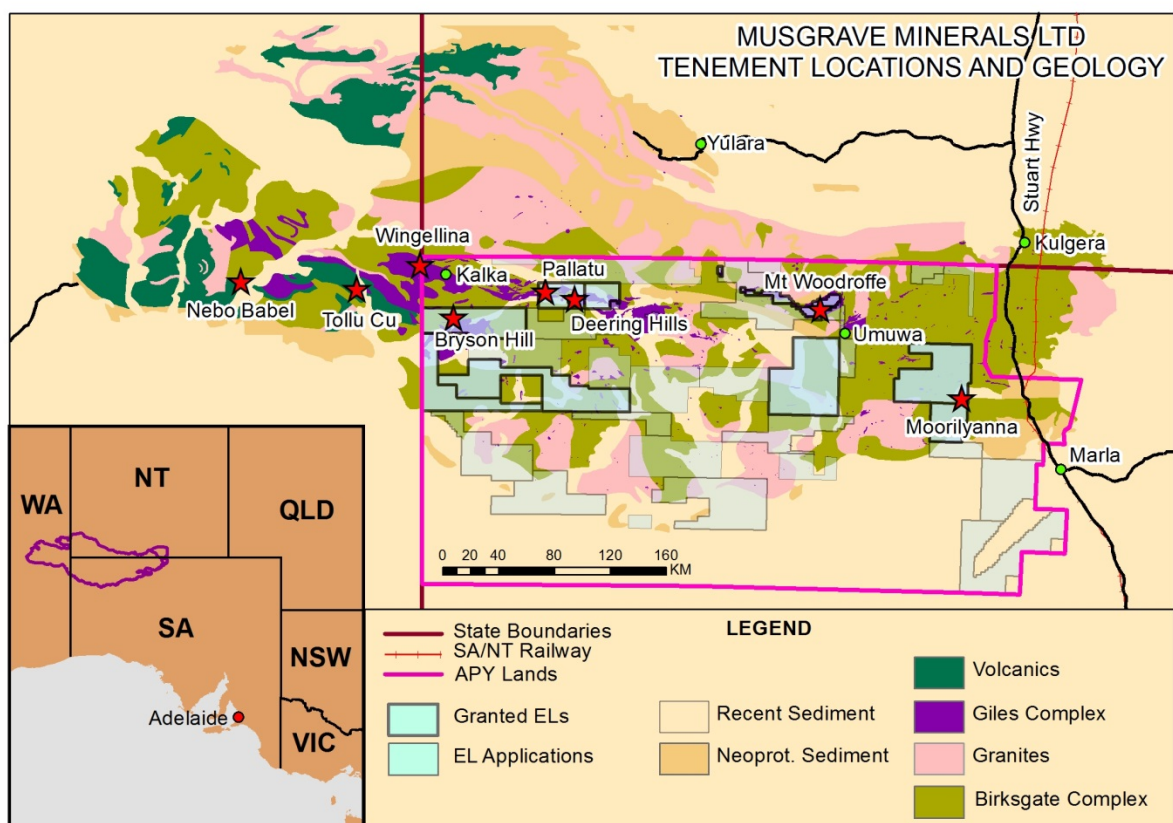

Figure 1: **Location of Musgrave Minerals' Exploration Licences in the Musgrave Region of South Australia.**
Musgrave Minerals Ltd ("Musgrave Minerals" or "the Company") (ASX:MGV) is pleased to announce that it has confirmed and extended the ground electromagnetic (EM) conductor at the Pallatu 7 target on its Deering Hills project in the Musgrave Province of South Australia (Figure 1). Musgrave has also defined the Pallatu 6 EM conductor to the north-east.